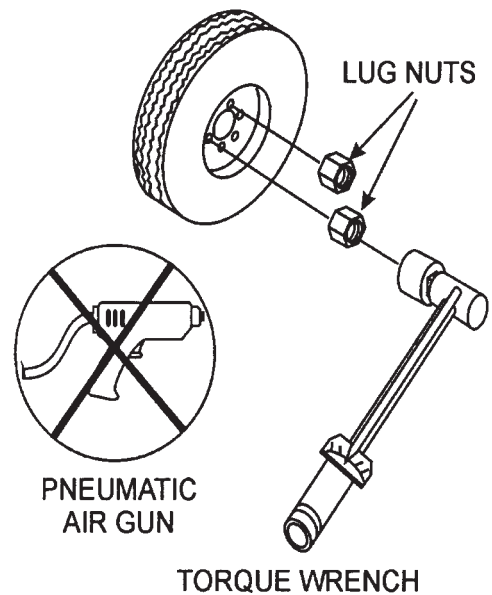

Figure 5. Wheel Lug Nuts Tightening Sequence
2. Torque all lug nuts in sequence. See Figure 5. **DO NOT** torque the wheel lug nuts all the way down. Tighten each lug nut in 3 separate passes as defined by Table 4.